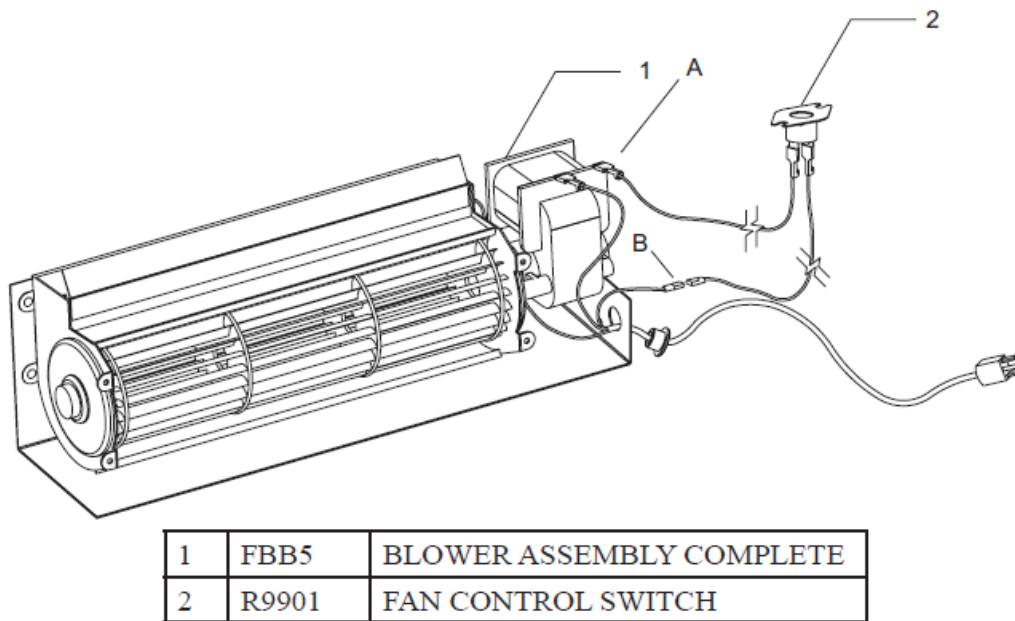

Figure 19
8. One fan control wire will have a 1/4" female terminal that must be attached to the open terminal on the blower motor. See Figure 19, Connection A.
9. The other fan control wire has a 1/4" male terminal. Attach this terminal to the open terminal on the blower power cord. See Figure 19, Connection B